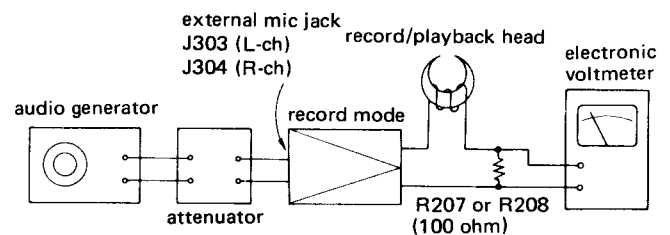

Figure 16-3
- 1) Make connection of instruments as shown in Fig. 16-3.
- 2) Short pins ① and ② of CNP202 to cause a stop of the oscillation.